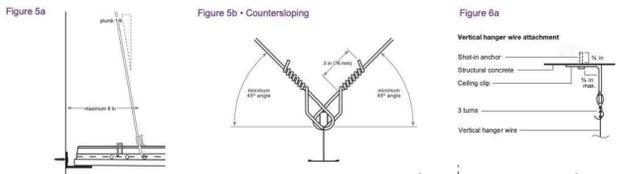

Figure 5b • Countersloping
- Hanger and perimeter wires must be plumb within 1:6 unless (Figure 5a) countersloping wires are provided (Figure 5b). Source: ASTM C636 Section 2.1.4